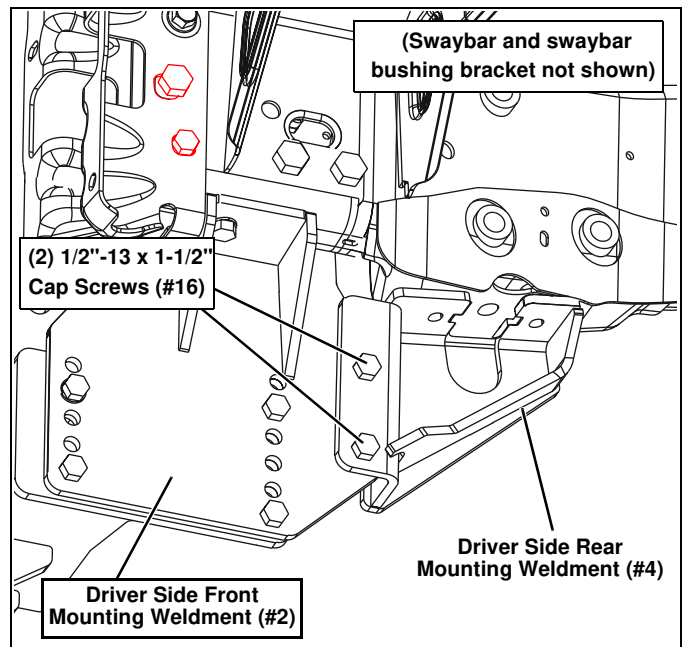

Figure 9
- Slip the Rear Mounting Weldments, DS (#4) and PS (#5) over the swaybar and swaybar bushing bracket. (See Figure 9.)
- Assemble the Rear Mounting Weldments onto the Front Mounting Weldments (#2 and #3). Then secure each side using (2) 1/2"-13 x 1-1/2" Cap Screws (#16), and (2) 1/2"-13 Locknuts (#13). (See Figure 9.)